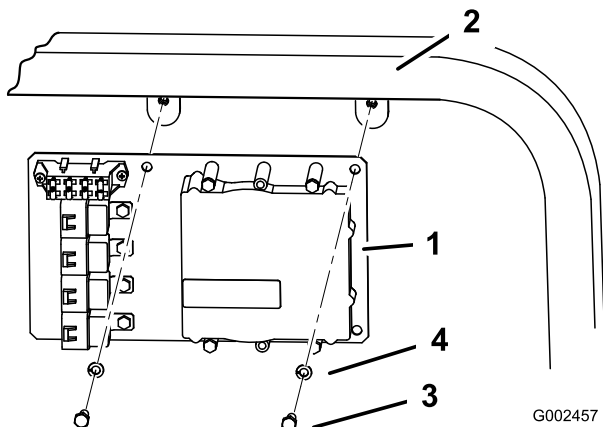

Figure 9
A. For the Multi-Pro 1200 and 1250, install the mount plate using 2 bolts (5/16 x 3/4 inch) and 2 lock washers (5/16 inch) as shown in Figure 9.